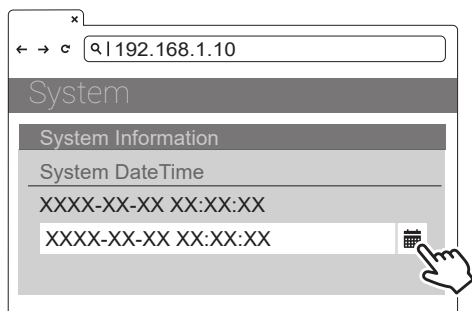

Figure 37. Select Date/Time
4) Select the calendar button on the right to set the current date and time. See Figure 37.